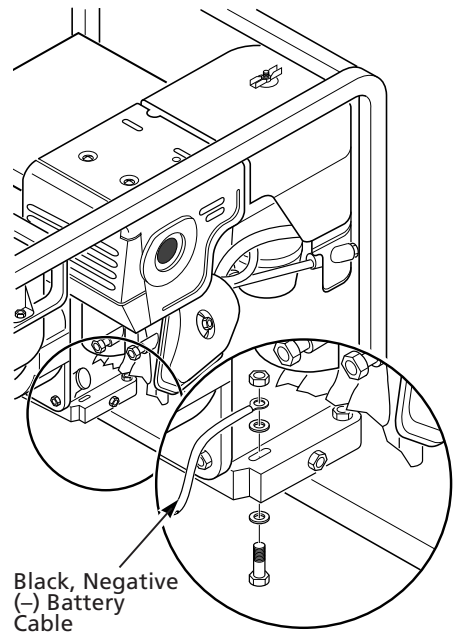

Figure 14 – Connecting Black, Negative (-) Battery Cable to Engine Block
2. Attach the black, negative (-) battery cable to the engine block. Use the bolt, nut, and two washers provided with the battery cables. Use long mounting hole on opposite side of engine from starter solenoid. Attach cable as shown in Figure 14.